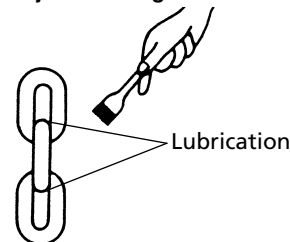

Figure 2 - Chain Lubrication
2. Lubricate the load chain along the whole length with machine oil (See Figure 2).